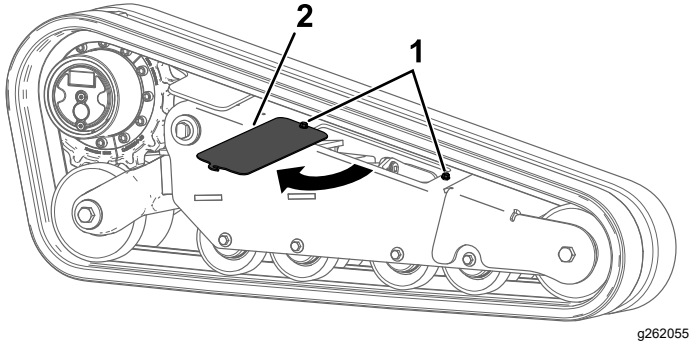

Figure 66
5. Loosen the 2 bolts and rotate the access cover open (Figure 66).
15. Close the access cover and tighten the bolts (Figure 66). Torque the bolts to 41 N·m (30 ft-lb).